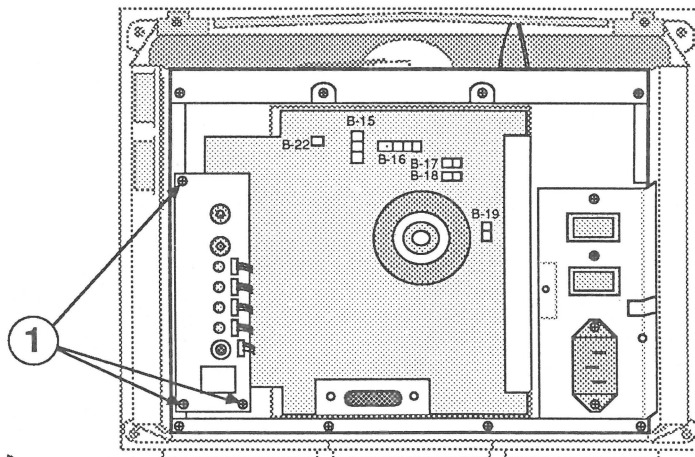

FIGURE 10
5. Remove the three screws (Figure 10, #1) that secure board "H" to the metal chassis frame, and pull the board out a little.